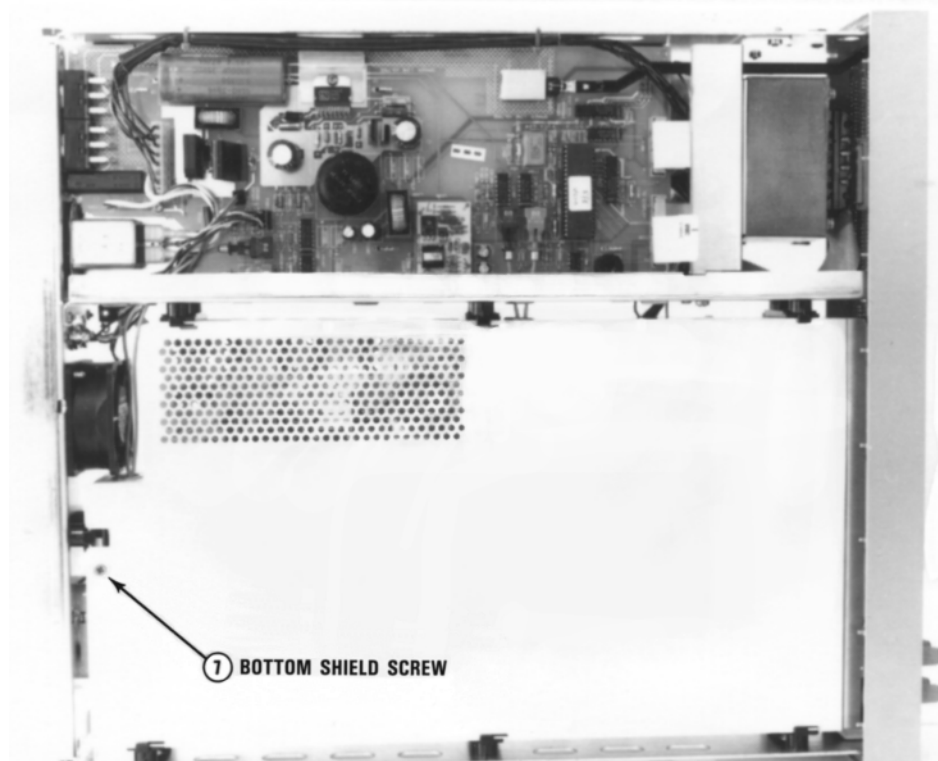

Figure 39. 3458 Inside bottom view
1. Refer to Figure 39. Use the #TX 10 Torx driver to remove the bottom shield screw. Then remove the shield. Pull the shield toward the rear of the instrument until the shield retainers line up with the slots in the shield. Lift the shield off.
3. Refer to Figure 39. Replace the bottom shield. Line up the slots on the shield with the shield retainers. Then push the shield toward the front of the instrument until the shield screw hole lines up with the screw hole in the chassis. Use the #TX 10 Torx driver to reinstall the shield screw.